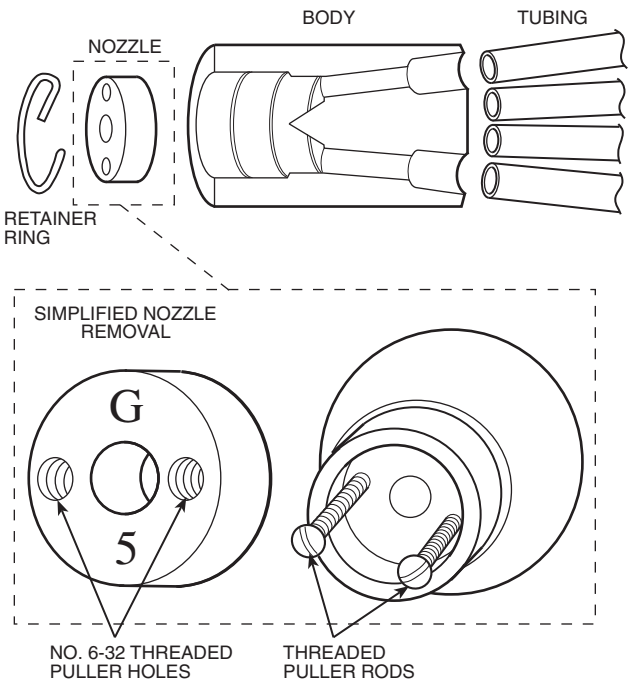

Fig. 98 — Nozzle Change-Out
4. Remove nozzle from distributor by inserting 2 no. 6-32 threaded rods (at least 4 in. long) into the threaded holes provided in the nozzle. See Fig. 98.